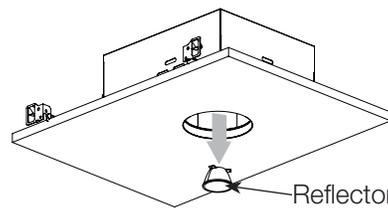

Figure 14
4. Field replace light module (Figure 14).